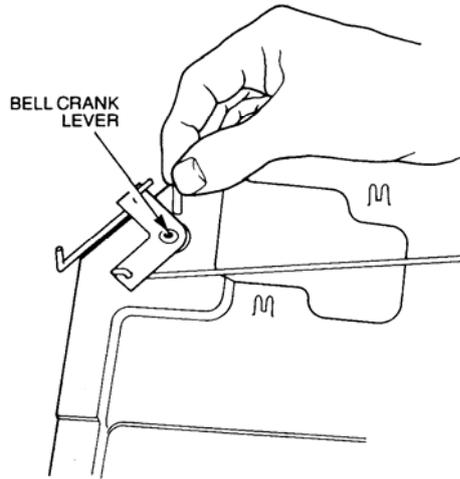

Figure 17 Link Rod Bell Crank Pivot Removal
- t. Remove the pins from the centre of the bell crank lever pivots (refer Figure 17).